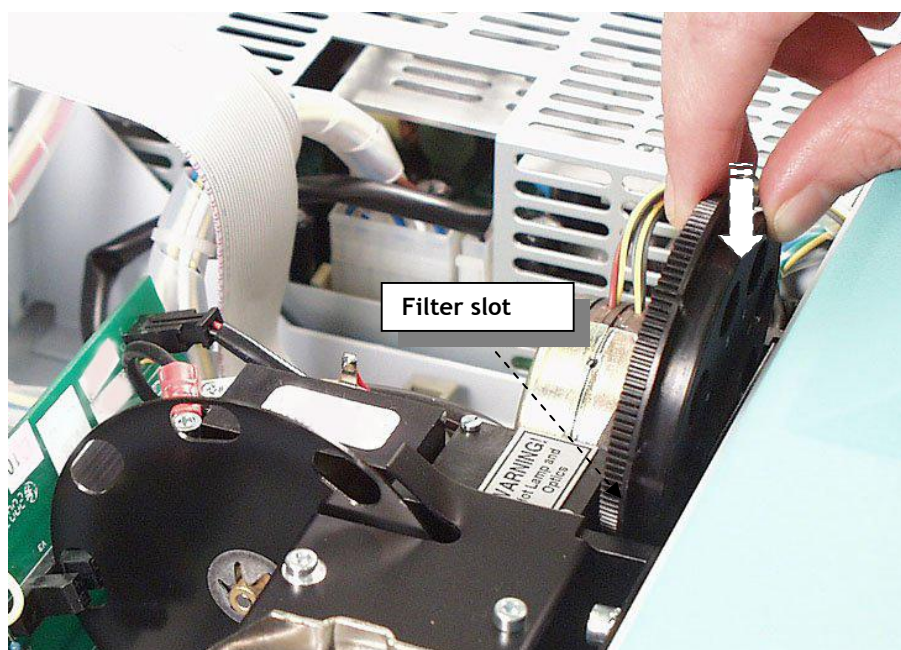

Fig. 5.5 Placing the Multiskan EX filter wheel into the filter slot
2. Place the filter wheel into the filter slot (Fig. 5.5) so that the toothed edge faces towards the rear of the instrument. A magnet locking mechanism will automatically lock the wheel in the correct position and the optical filter position sensor will make sure that the correct filter is used during measurement.